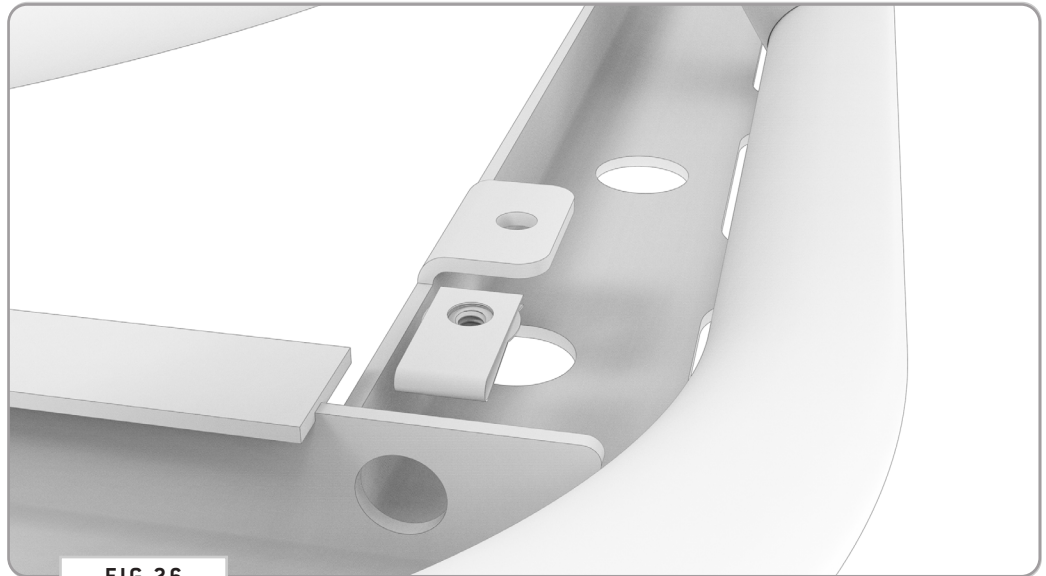

FIG 26
**NOTE** - The flat side of the **Clip Nut** should be facing upwards (FIG 26)